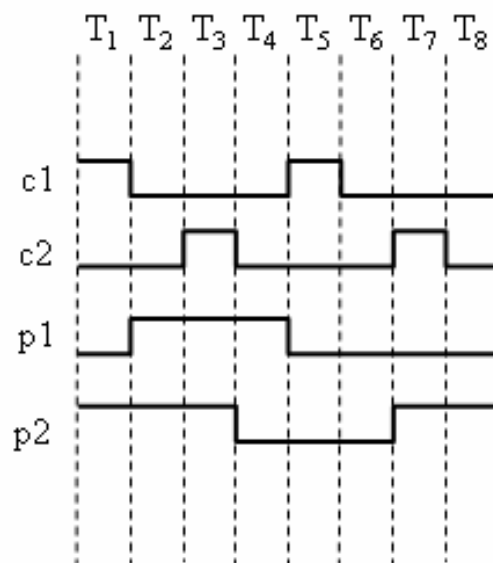

Figure 1.
In a CAN bus as shown in figure 1, where the line connecting the nodes has a delay of 5ns/m , we are considering the two **end** nodes.
The system we have to design will have to generate four output signals, named *c1*, *c2*, *p1* and *p2*, that will be used as inputs to the L6219 driver. The time sequence to generate these signals is shown in figure 1.
1. If the motor chosen has a maximum angular speed of 300 r.p.m. and we want to sweep the mentioned 90° zone in 1 second, assuming that all the intervals shown in figure 1 are equal and of value T, find the value of T. (10%)